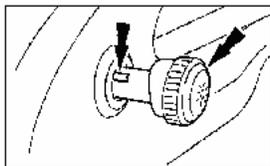

Figure 1.
- A. Remove the headlamp switch knob by inserting a narrow tool or standard screwdriver in the slot. Slide the screwdriver along the slot towards the end of the knob and pull the knob away from the dash to release the knob from the shaft. (See figure 1)